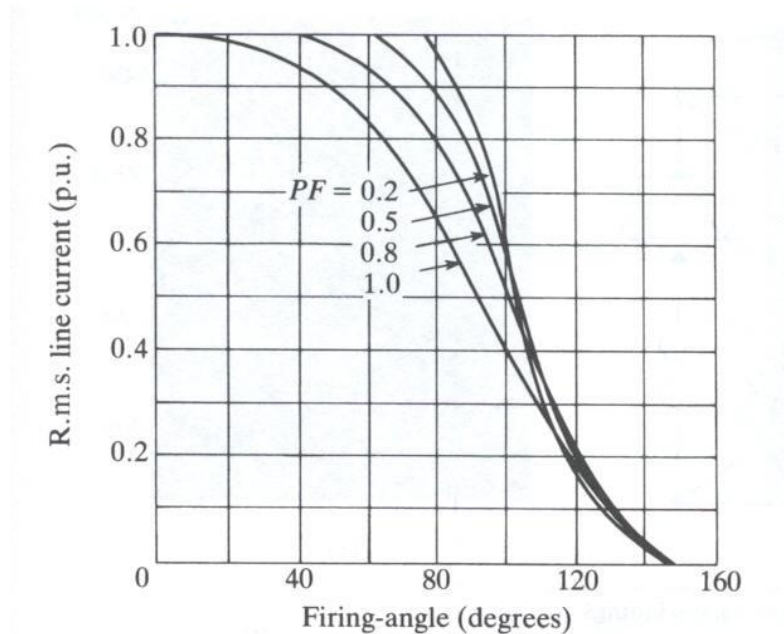

Figure 4 – Performance curves of current versus firing-angles
- (vi) Use the performance curves of current versus firing-angles in Figure 4, obtain the necessary range of thyristor firing angles to meet the above required speed operating range.